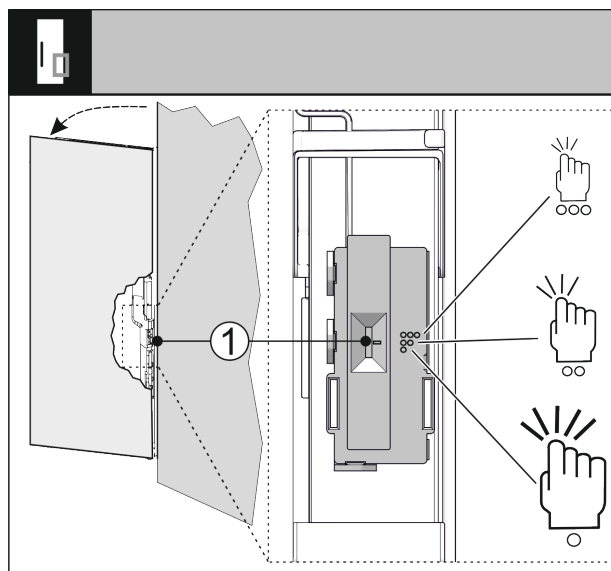

Fig. 98
You can use a switch Fig. 98 (1) to adjust the sensitivity of the knocking sensor. The switch is on the bottom third of the door on the hinge side.
- ▶ Move the switch Fig. 98 (1) to the required switch position.